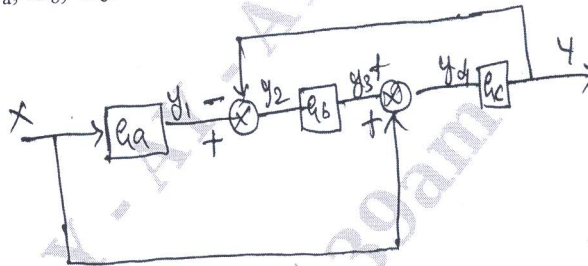

Fig Q8(a)
- 8 a. Determine the transfer function $y(x)/x(s)$ for the block diagram show in Fig Q8(a). Express the results interms of G_a , G_b , G_c .